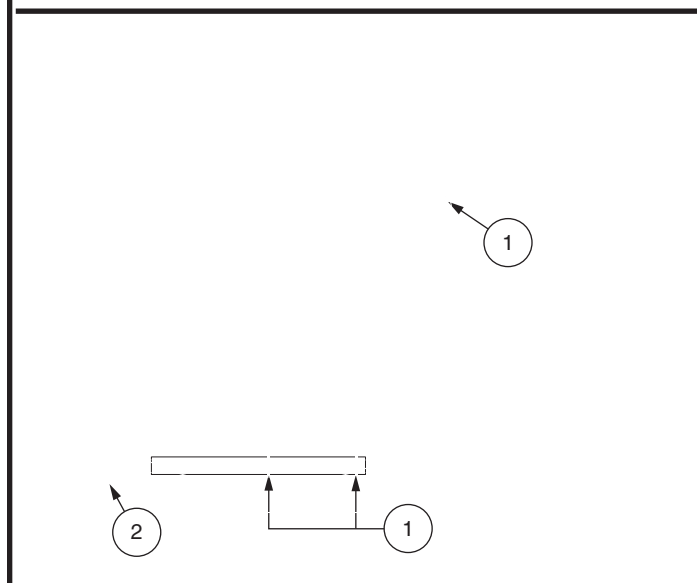

Figure 9. Controller Harness Routing on a Contour Seat
6. Secure the controller harness to the armrest receiver with wire ties. **See figure 9.**